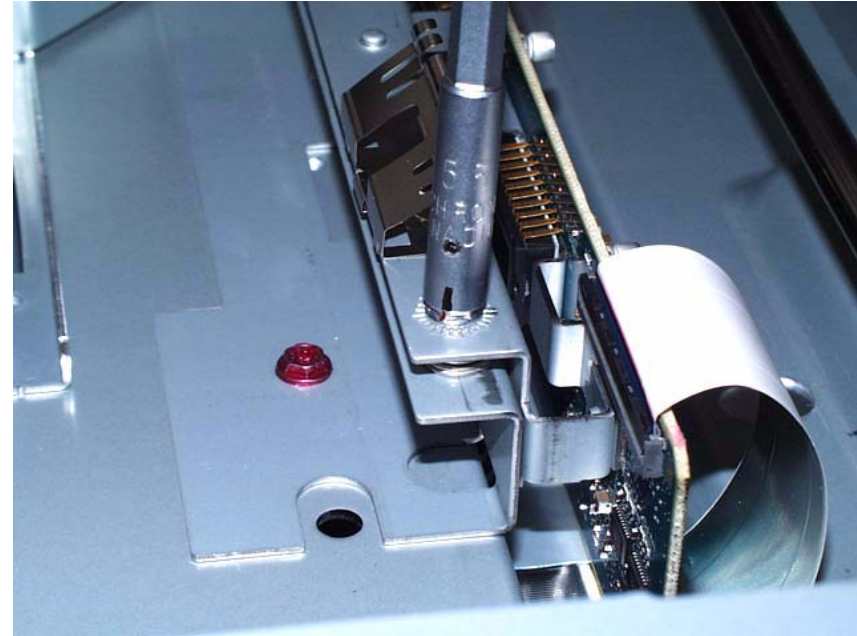

Figure 1 Tool and Front Optics Adjusting Nut
2. Place an index mark on the barrel of a 5.5mm nut driver. Figure 1 shows the tool and the adjusting nuts.